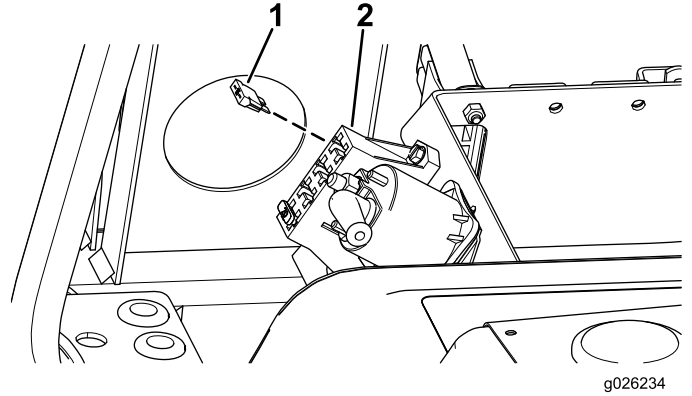

Figure 7
3. Insert the 15-amp fuse into the top socket of the fuse block (Figure 7).